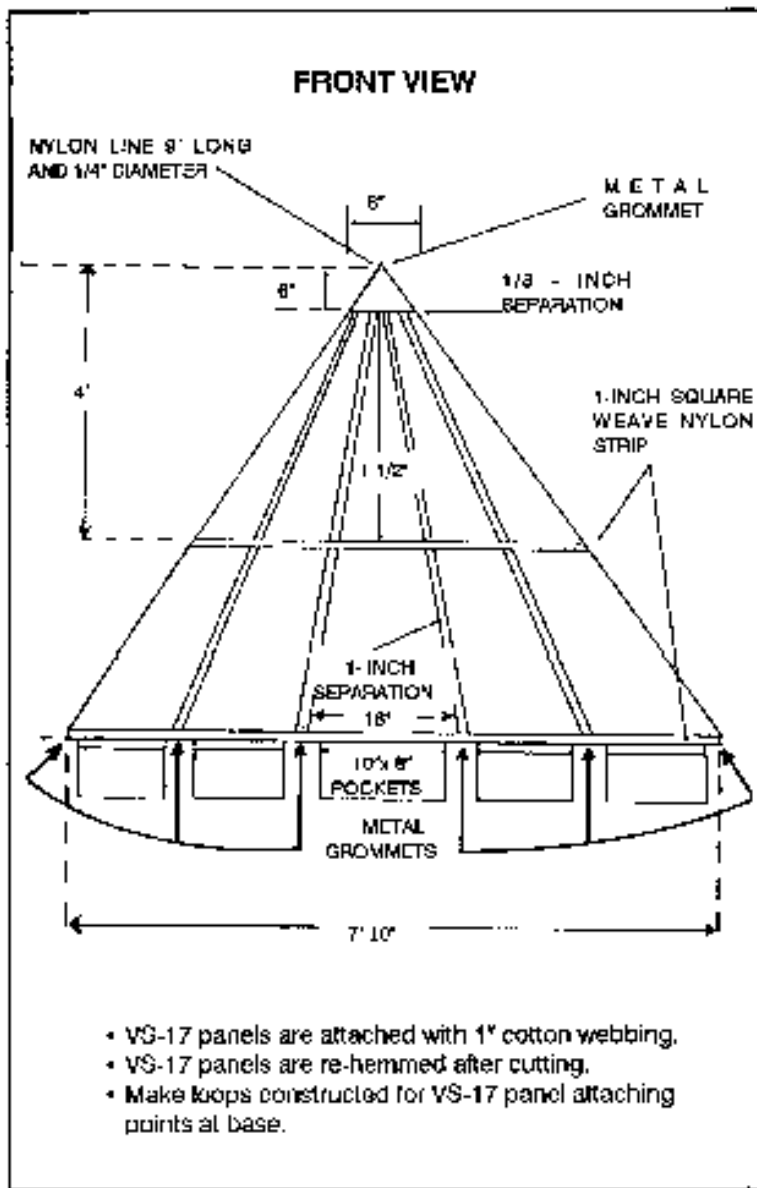
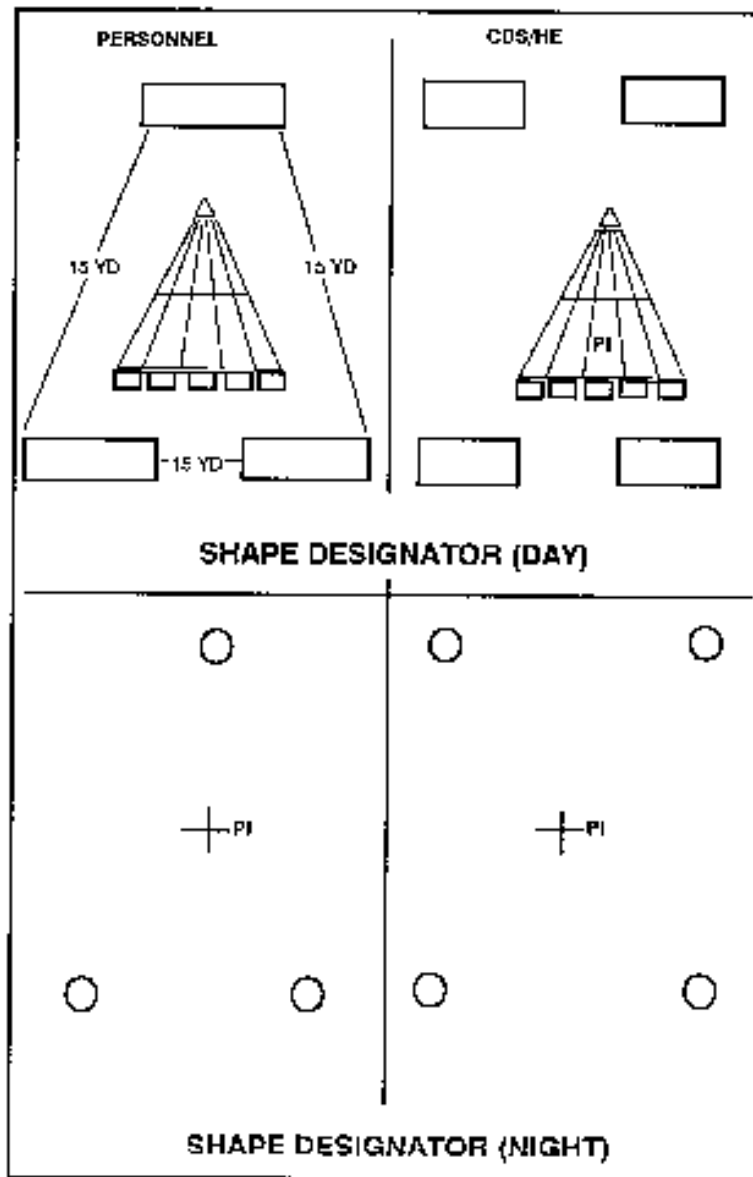

Figure 6-9. Raised angle marker.
Figure 6-10. Shape designators.
a. During day operations, the point of impact will be marked with a RAM (Figure 6-9) and a shape designator patterned in either a triangle (for personnel airdrop operations, or a square for CDS/HE airdrops (Figure 6-10).